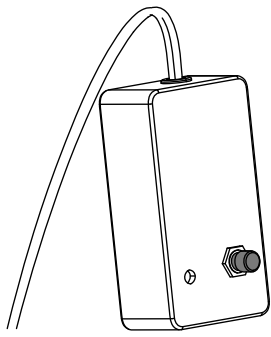

Figure 48
6. Push the TEST button on the Zap-Alert tester (Figure 48).